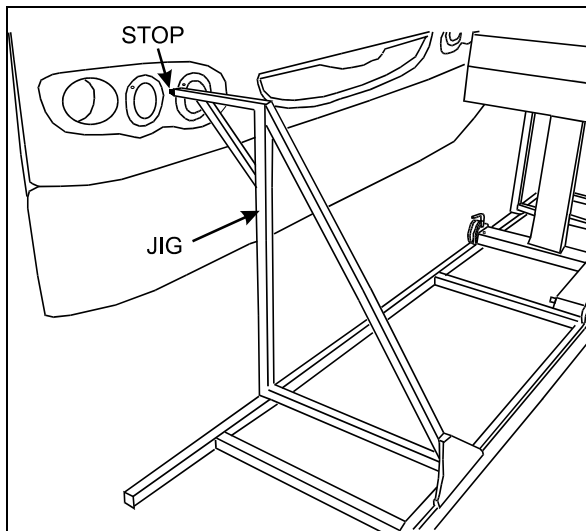

FIGURE 41: INSTALLATION OF JIGS 06499
3. Install jigs #29263 and #29262 onto the support rail. Position the support rail so that both stops are centered between the two beams (Figure 41). Mark the position for future reference.